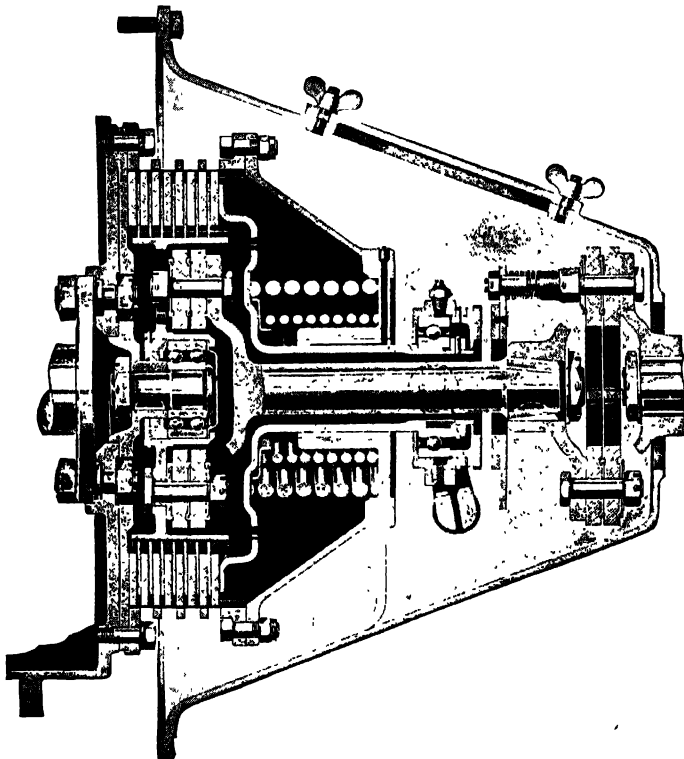

FIG. 41.—Multiple-disk Clutch—Dry Type.
- a. Dry Plates (Fig. 41).
Figure 41 shows a multiple-disk dry-plate clutch. In this type the driving and driven disks are stampings carefully flattened and machined to make them slide freely.